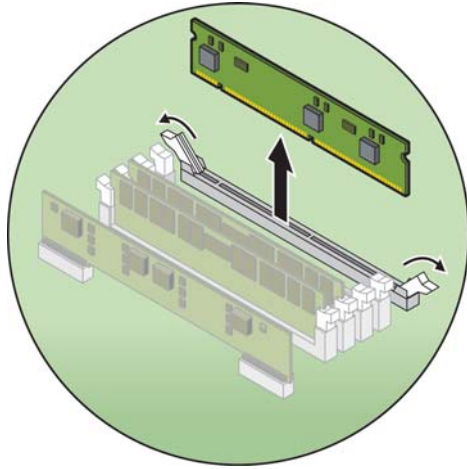

FIGURE 5-25 Removing a Memory VRM
4. Remove a memory VRM by pressing down on the ejector bars at both ends of the socket (see FIGURE 5-25).
6. Remove a memory VRM by pressing down on the ejector bars at both ends of the socket (see FIGURE 5-25).